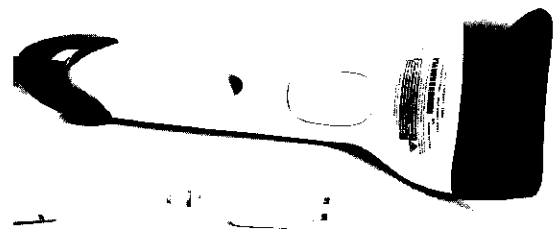

Figure 167: USB connection
- If the connector on your scanner is the same as that shown in Figure 167, it has a USB connection and you must use the instructions in "configuring a USB ID scanner" on page 218.